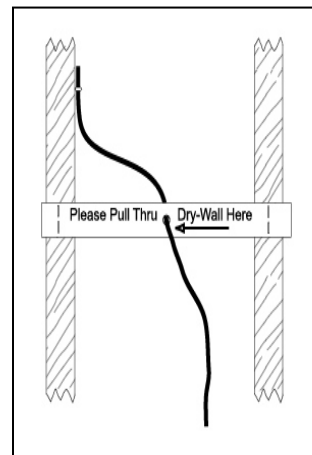

Figure 3
3. If pre-wiring without using the On-Q Pre-Construction Speaker Brackets, leave 4 to 6 feet of wire at the speaker's intended location. Use a strip of cardboard stapled to the joints/studs with a hole through it as a wire place holder for the drywall installers if installation of the speakers is intended (**see Figure 3**).